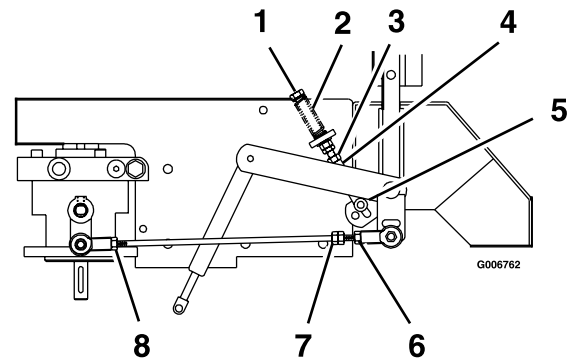

Figure 16
3. Begin with either the left or right motion control lever. Move lever to the neutral position and pull lever back until the clevis pin (on arm below pivot shaft) contacts the end of the slot (just beginning to put pressure on spring). (Figure 16).
6. Loosen lock nuts from the ball joints at each end of the RH pump control linkage (Figure 16).
9. Bring the motion control lever into the neutral position. Adjust RH pump control rod length by rotating the double nuts on the rod in the appropriate direction until the wheels slightly creep in reverse (Figure 16). Move the motion control lever to the reverse position and while applying slight pressure to the lever, allow the reverse indicator spring to bring the levers back to neutral. The wheel must stop turning or slightly creep in reverse.